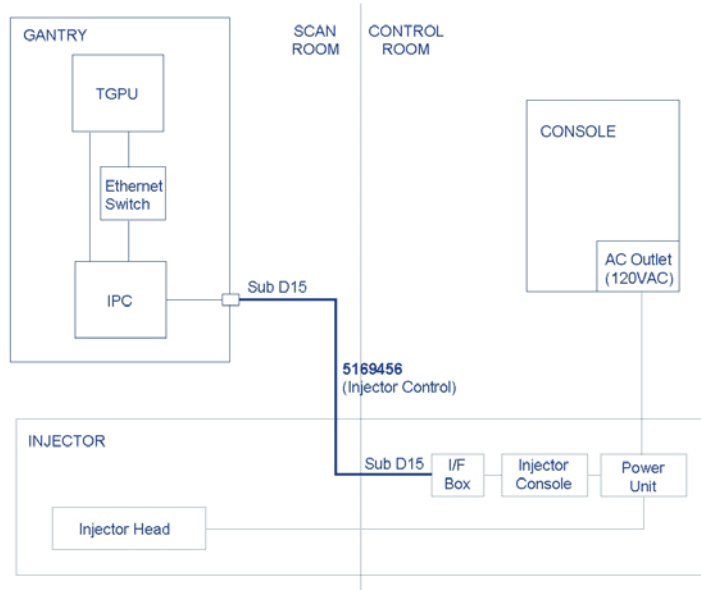

Figure 1-18 IPC - Injector Control Cable Connection
- 1.) Route the IPC-Injector Control cable (5169456) between Gantry (IPC) and Injector as shown in Figure 1-18.